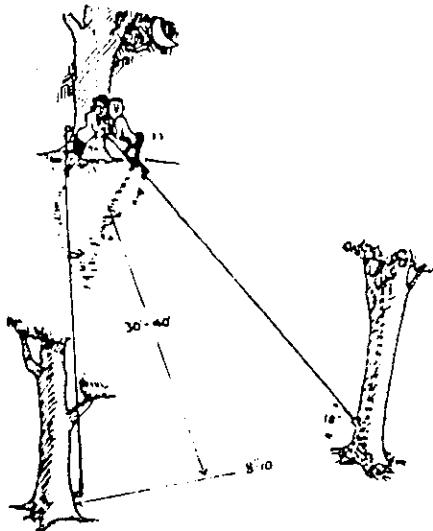

Figure 416 The Jiggler
39. The Jiggler: In this exercise, two people attempt to make their way to the end of two diverging cables or ropes without falling off. The cable is from one to two feet above the ground and may be 25 to 40 feet long. One good method of setting it up is to use a long 3/8 inch cable and encircle three well-spaced trees, such as in Figure 416. The two participants start out on the narrow end and work their way to the wider end. Leaning on one another is a good method of using teamwork.